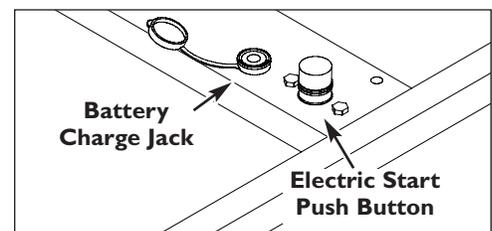

Figure 8 - Electric Start button and Battery Charge jack
- For electric start, press push-button start switch (Figure 8) until engine cranks and starts. Limit electric start cycles to 5 seconds of cranking each minute to prolong life of starter and starting battery.